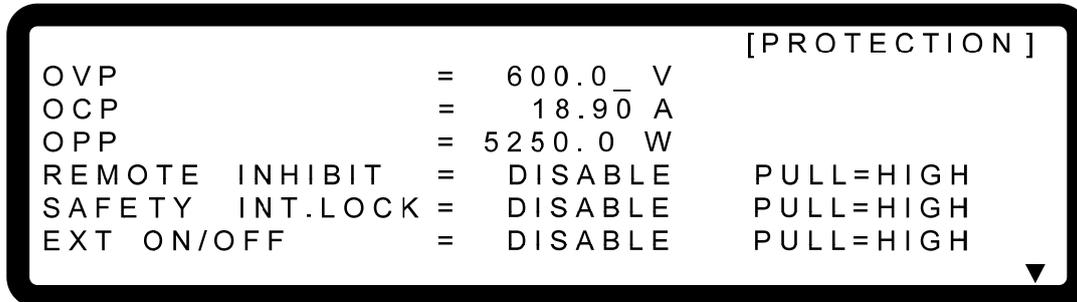

Figure 3-68
1. Use “”, “” keys to move the cursor to the column to be set as Figure 3-68 shows.